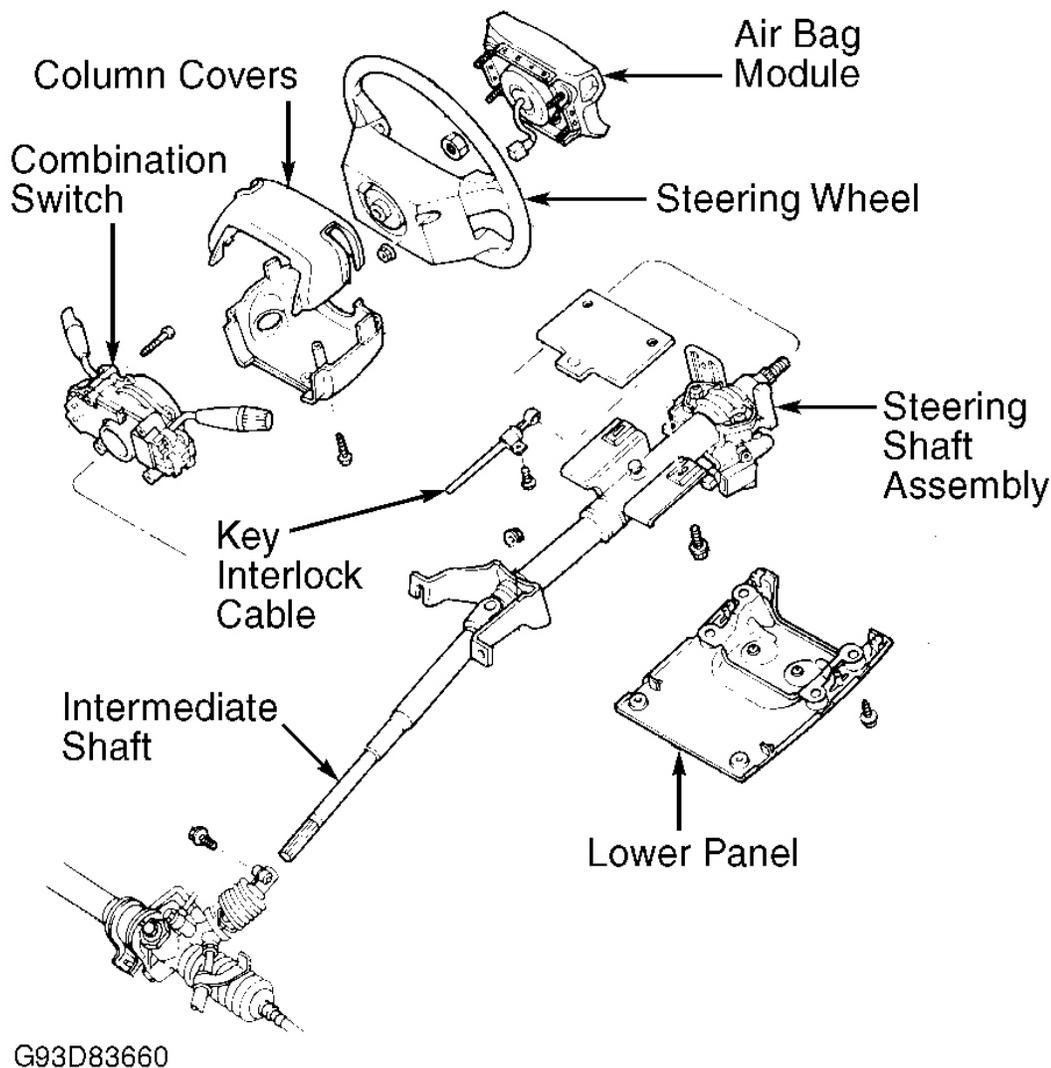

Fig. 2: Exploded View Of Steering Column
1. Remove steering wheel and combination switch. See **STEERING WHEEL & HORN PAD** and **COMBINATION SWITCH** under REMOVAL & INSTALLATION. See **Fig. 2** . Remove ignition switch/steering lock assembly. See **IGNITION SWITCH/STEERING LOCK ASSEMBLY** under REMOVAL & INSTALLATION.
Remove steering wheel and combination switch. See **STEERING WHEEL & HORN PAD** and **COMBINATION SWITCH** under REMOVAL & INSTALLATION. See **Fig. 2** . Remove ignition switch/steering lock assembly. See **IGNITION SWITCH/STEERING LOCK ASSEMBLY** under